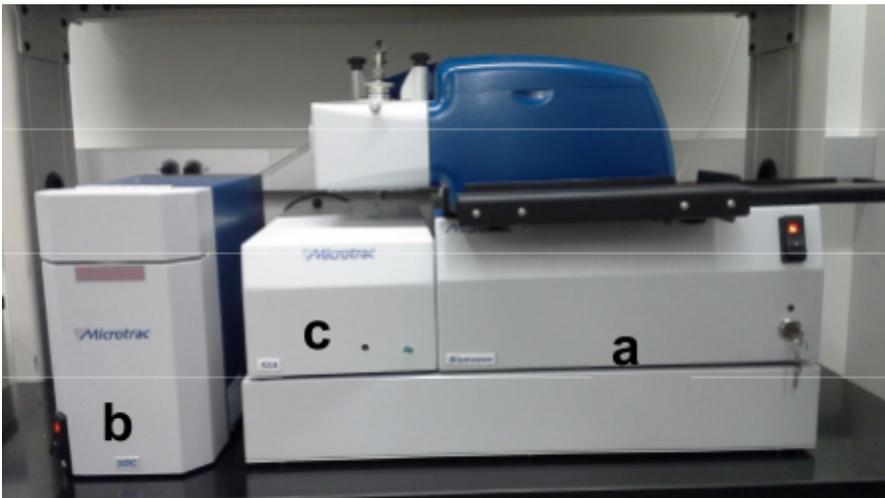

Figure 1. The Microtrac SIA (labeled c), mounted on the Bluewave tool (a).
- 2.** The SIA is mounted on the Bluewave laser diffraction tool (see Figure 1), and the two systems share a common liquid flow system, the sample delivery controller (SDC). This allows both laser diffraction and optical measurements to be obtained simultaneously on the same sample. An in-line ultrasonicator in the SDC can be used to break up particle agglomerates, and denser/larger particles can be prevented from settling by using faster liquid circulation speeds. Dry particles can be tested by pre-suspending them in a small amount of liquid, then adding them to the SDC flow system. Suspension liquids should be chosen so that they will not dissolve or swell the particles. Surfactants may be used to help suspend particles.
- 3. Tool Components.** Figure 1 shows a front view of the SIA/Bluewave combination. Key components visible in this view are: